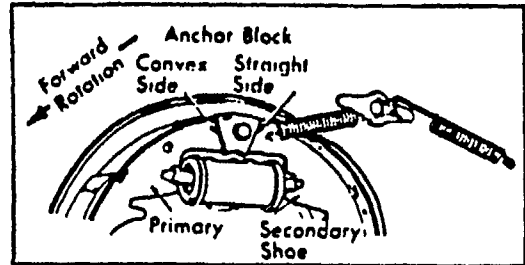

Fig. 43 Anchor Block Installation - 10 Series.
5. Install the anchor block with arrow pointing in the forward direction of drum rotation (see fig. 43).